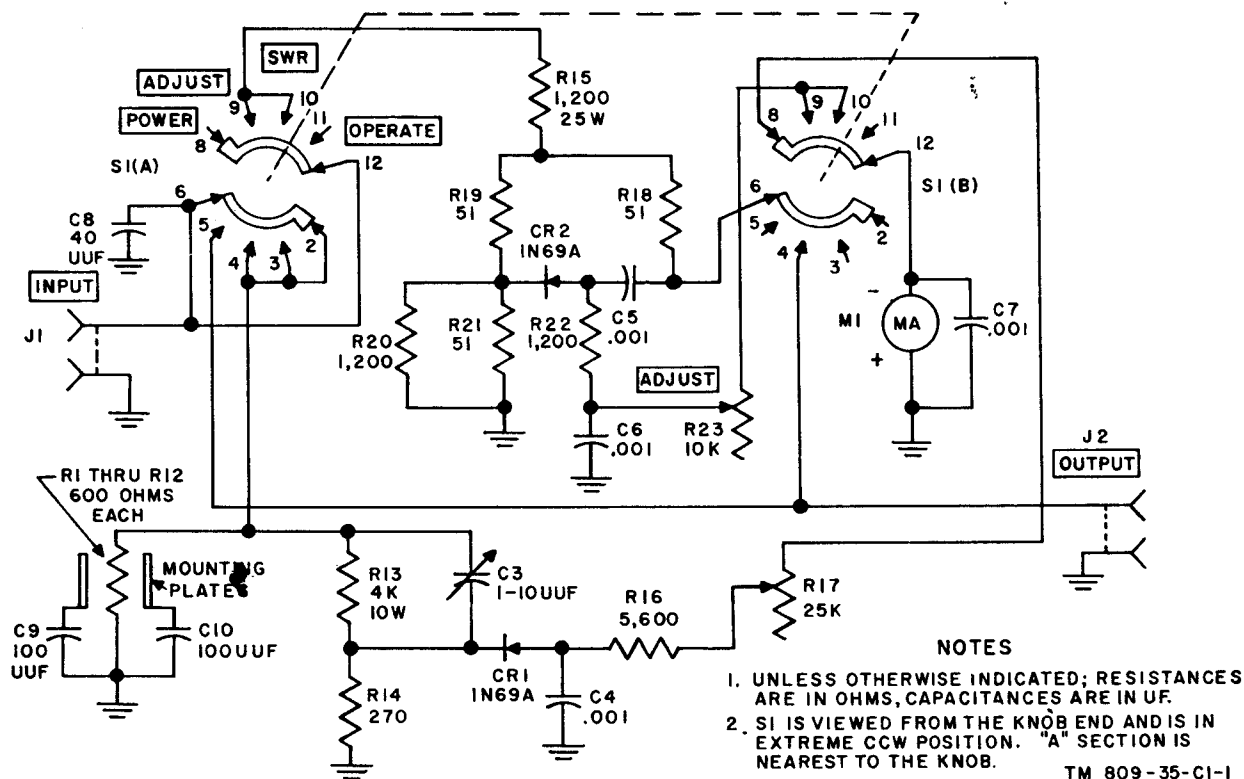

Figure 36.1. (Added) Standing wave ratio-power meter ME-165/G, schematic diagram.
Page 47. Add section VI and figure 36.1 after Section V.
23.1. General (fig. 36.1)
23.2. Matching Unit Theory (fig. 36.1)